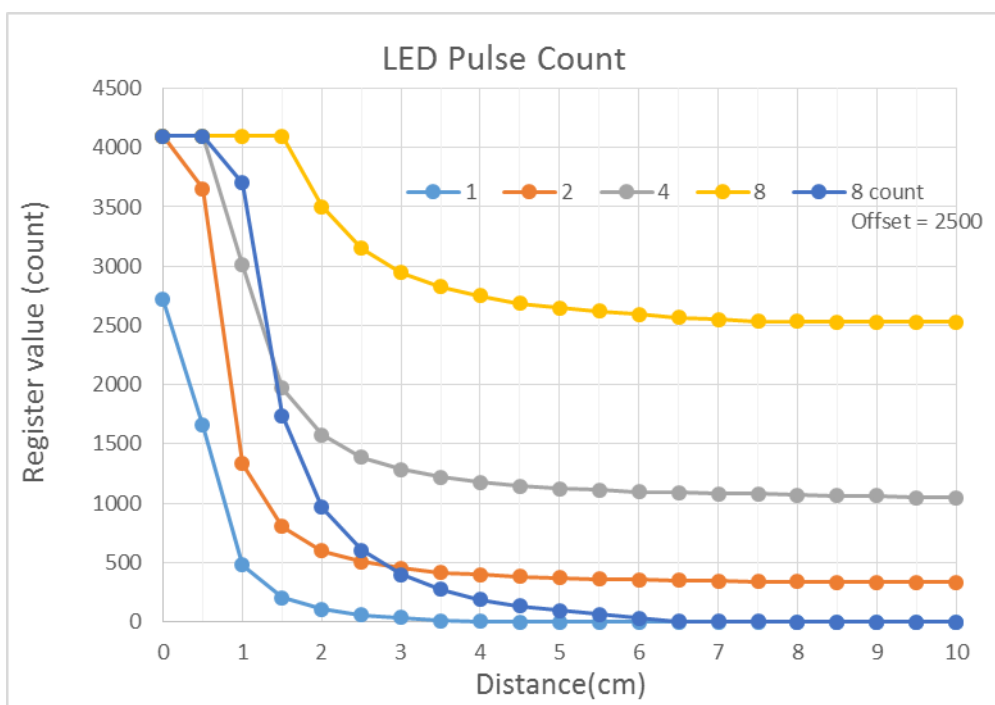

Figure 10. Adjust LED pulse count
- PS_PULSE is to adjust the number of IR PULSE emissions each cycle. The larger value will cause the detection cycle longer. Figure 10 shows the trend of the curve caused by the IR PULSE number.